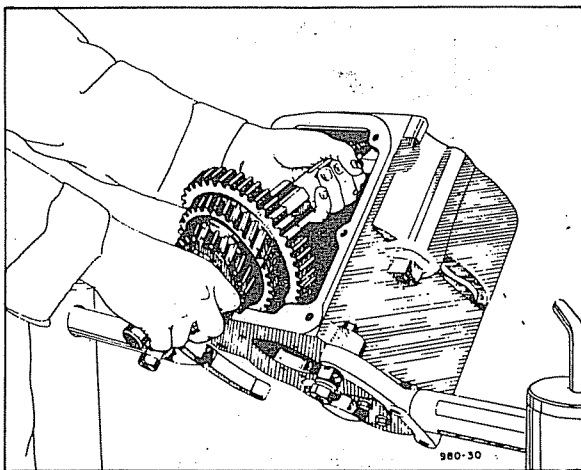

Fig. 17—Removing Mainshaft from Case.
- (9) Remove the mainshaft from the case (Figure 17).